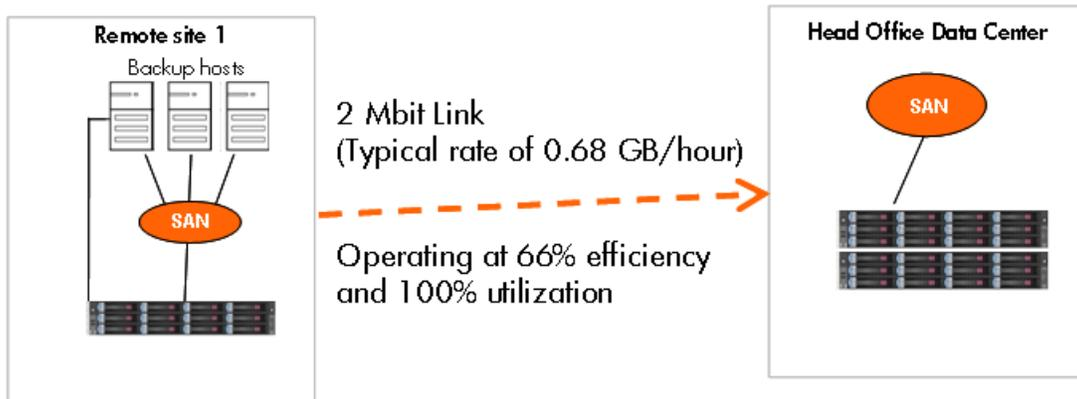

Figure 32 Example 1: 100 GB Virtual Cartridge Replication over a 2 Mb/sec Link with 100% Bandwidth Utilization
- The same data calculations as the example in Figure 32.